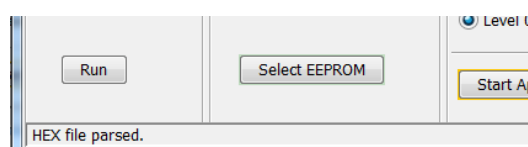

Figure 10.5
- The message "HEX file parsed" is displayed at the bottom of the FLIP window, Figure 10.5.